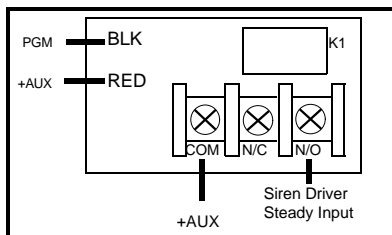

FIGURE 7 KEYFOB/KEYSWITCH CHIRP
(4) **Keyfob/Keyswitch Chirp** - Program to chirp the PGM Output (1) one time when the panel is armed or (2) two times when the panel is disarmed. Wire as shown in Figure 7.